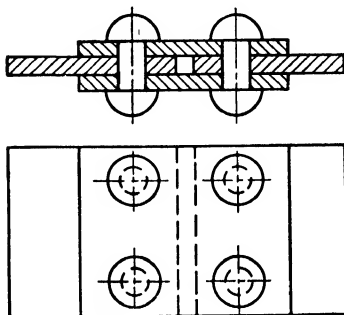

Fig. 235.—Double-plate butt joint,  $\frac{1}{64}$ -in. steel rivets, driven hot.
5. Find the strength of the butt joint shown in Fig. 235.